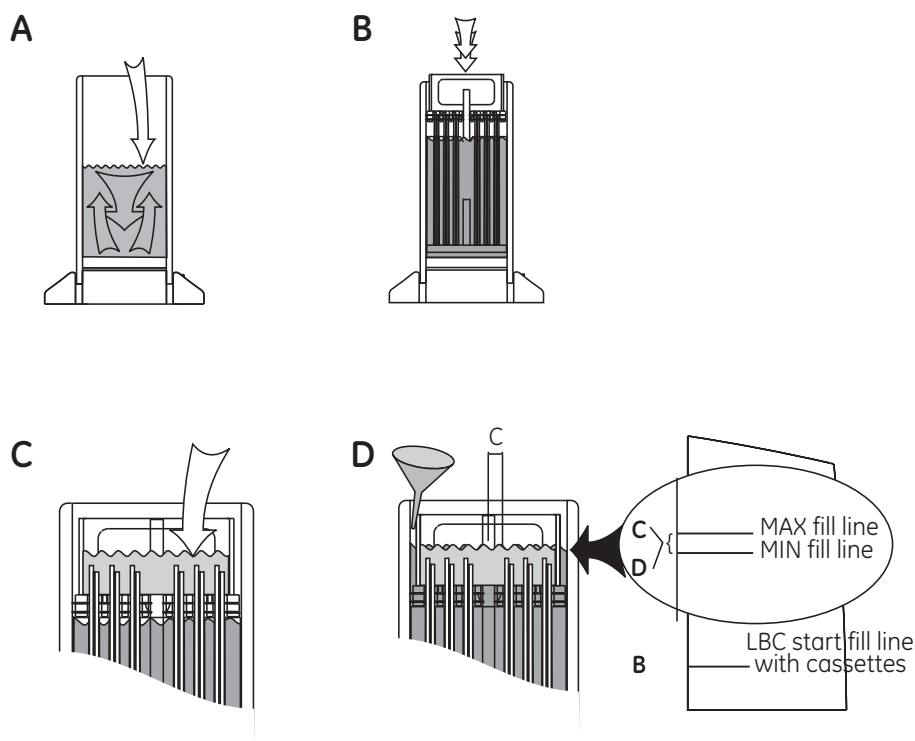

Fig 8-4. Filling the buffer chambers.
- 1 Fill the electrophoresis unit with 4.5 liters of 1× electrophoresis buffer or diluted anode buffer (*when using Ettan DALTsix Pre-cast gels*) and turn the pump on (Fig 8-4 A).
- 2 Insert the anode assembly into the tank so that the circulation ports are properly aligned. The anode assembly is keyed so that it may only be inserted in one orientation and the bottom edge of the assembly should fit into the slot in the bottom of the tank (Fig 8-4 B).
- 7 Fill the LBC with 1× electrophoresis buffer or water (*when using Ettan DALTsix Pre-cast gels*) to the same level as the upper chamber (Fig 8-4 D).